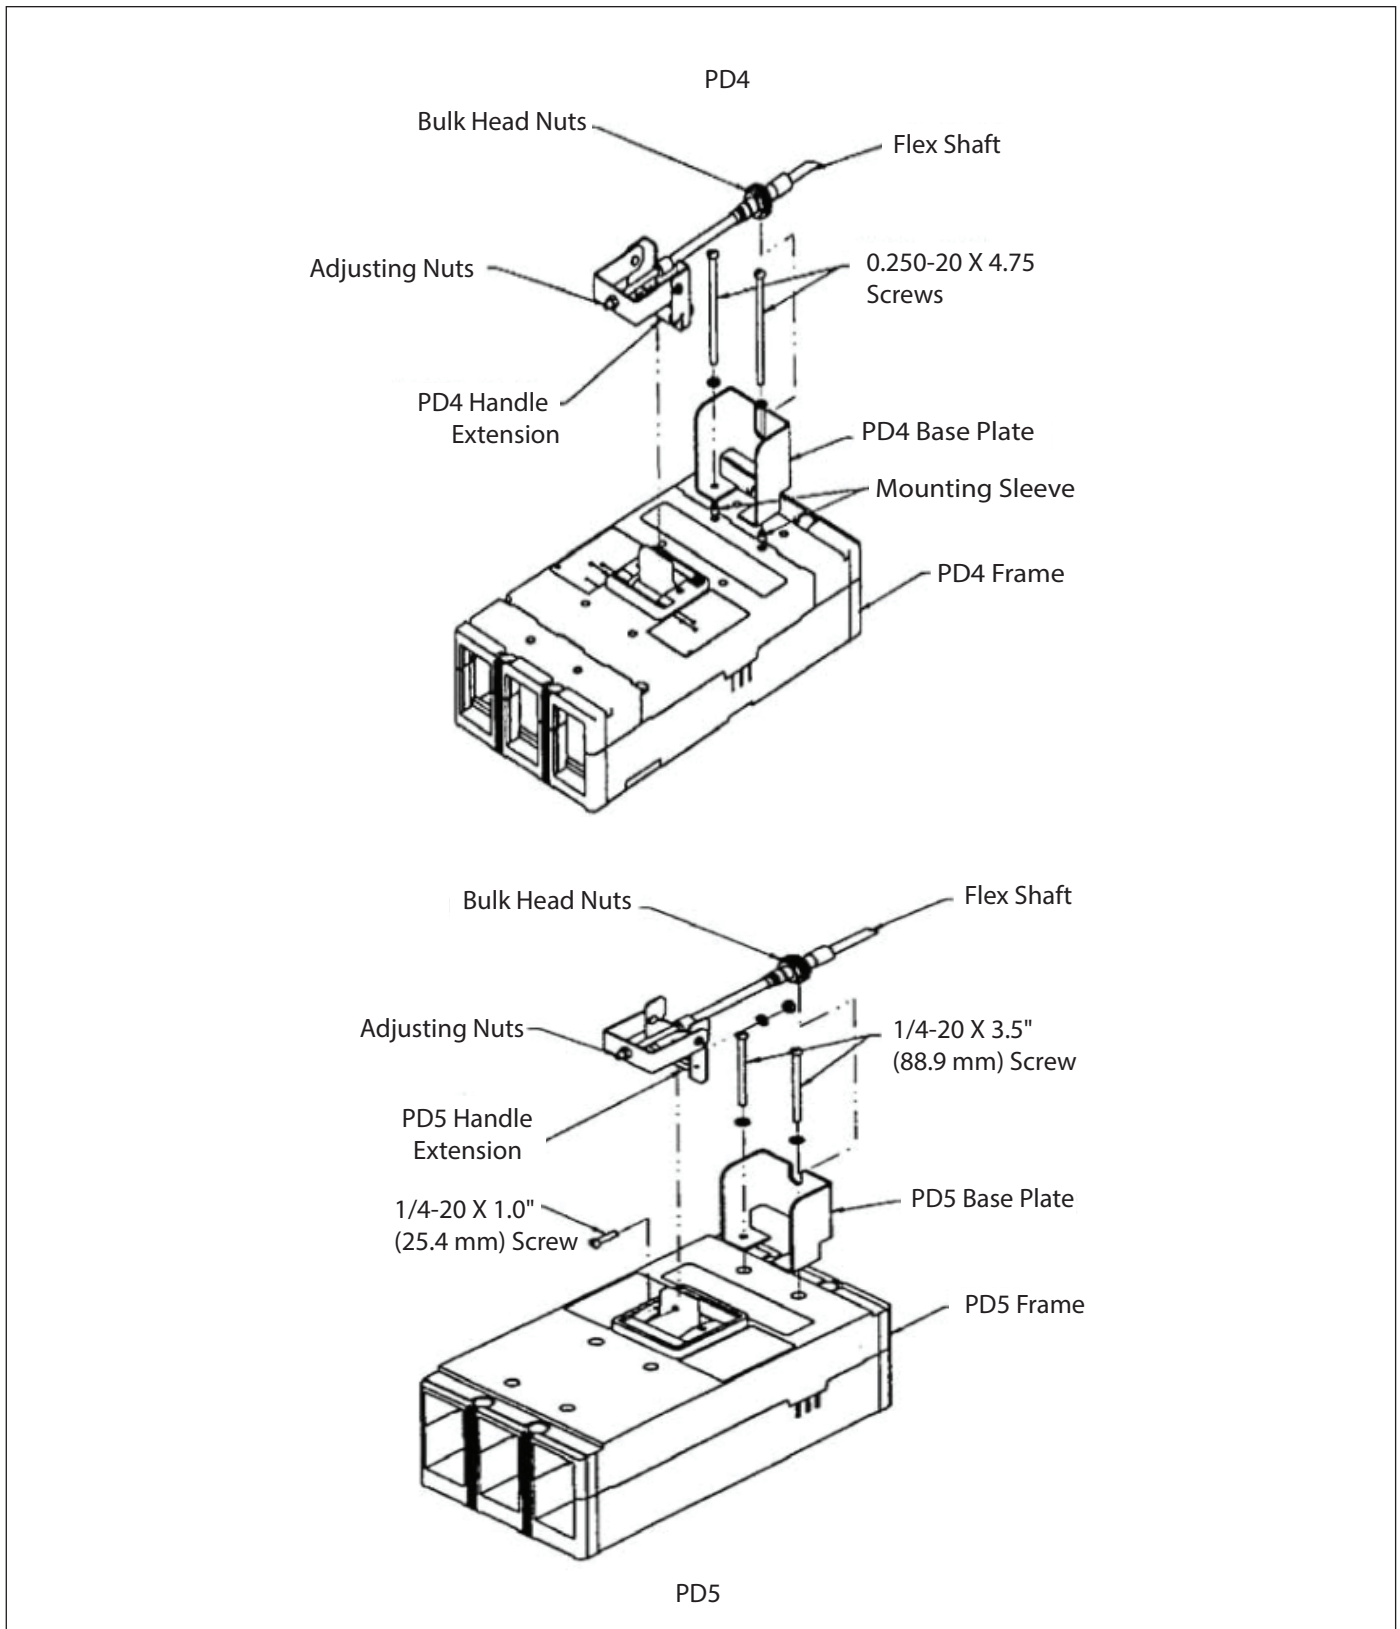

Figure 1-2 PD4, PD5 Mechanism Assembly.
PD5: Attach the Load end of the breaker to the enclosure using hardware from the hardware kit. Attach the base plate to the circuit breaker using the 1/4-20x3.5" (88.9 mm) screws and 1/4" (6.35 mm) lockwashers enclosed in the parts kit at the load end of the breaker after removing the (2) load cover screws located between the trip unit and the two load end mounting holes. See Figure 1-2 for illustration.
6. Place the outer handle mechanism in the full **ON** position and the circuit breaker in the **ON** position. You must Release Cover interlock to move handle to **ON** position. Place the handle extension assembly onto the breaker handle and secure as shown on Figure 1-2.
8. Actuate the outer handle positions (**ON**, **OFF**, **RESET**). If minor adjustments are necessary, refer to the following adjustment checklist and Figure 1-2.